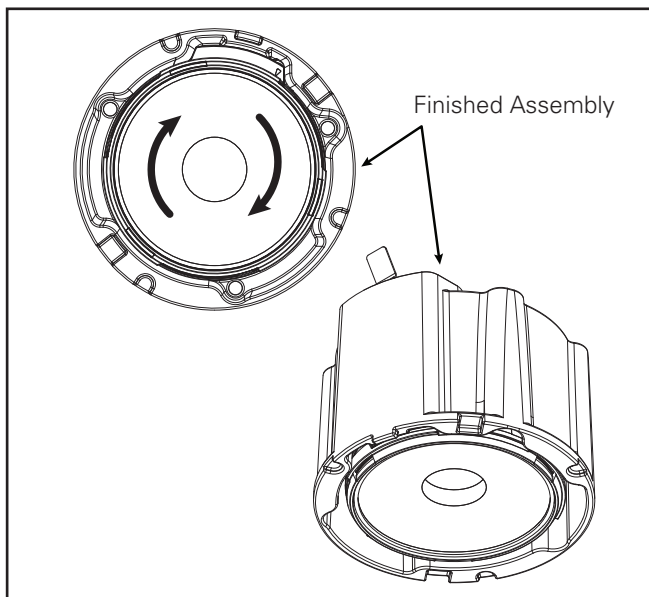

Figure 2
4. Fasten optic assembly with LED Light Engine by gently twisting clockwise until it stops. (Figure 2) Ensure the optic is secured in place.